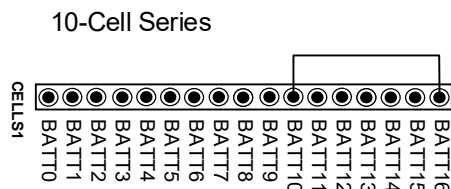

Figure 5: 10 Cells in Series Connection
- By default, this board has 16 cells in series. To use the cell simulator shunt and evaluate the device at a lower series number, short-circuit the corresponding channels. Figure 5 shows the 10-cell series connection with the cell simulator shunt. Decrease the DC power supply voltage between BATT16 and BATT- depending on the number of cells in series.